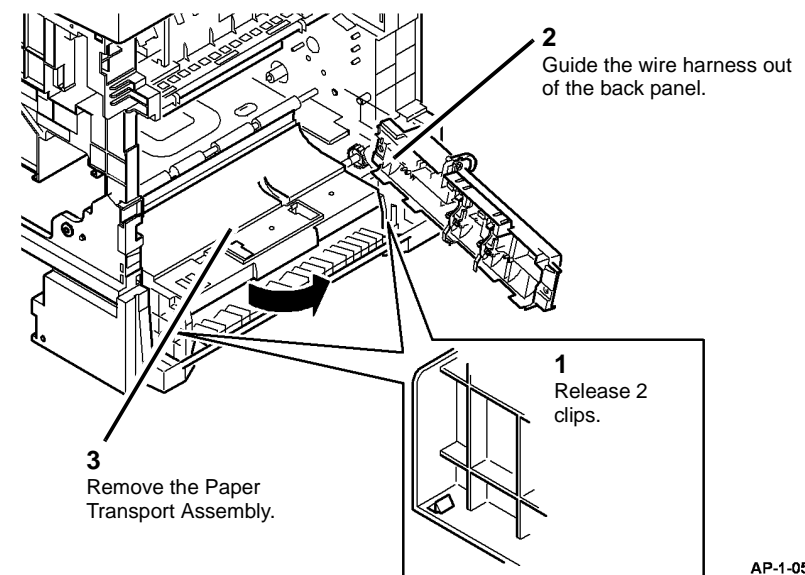

Figure 3 Remove the Paper Transport Assembly
4. Remove the paper transport assembly, Figure 3.